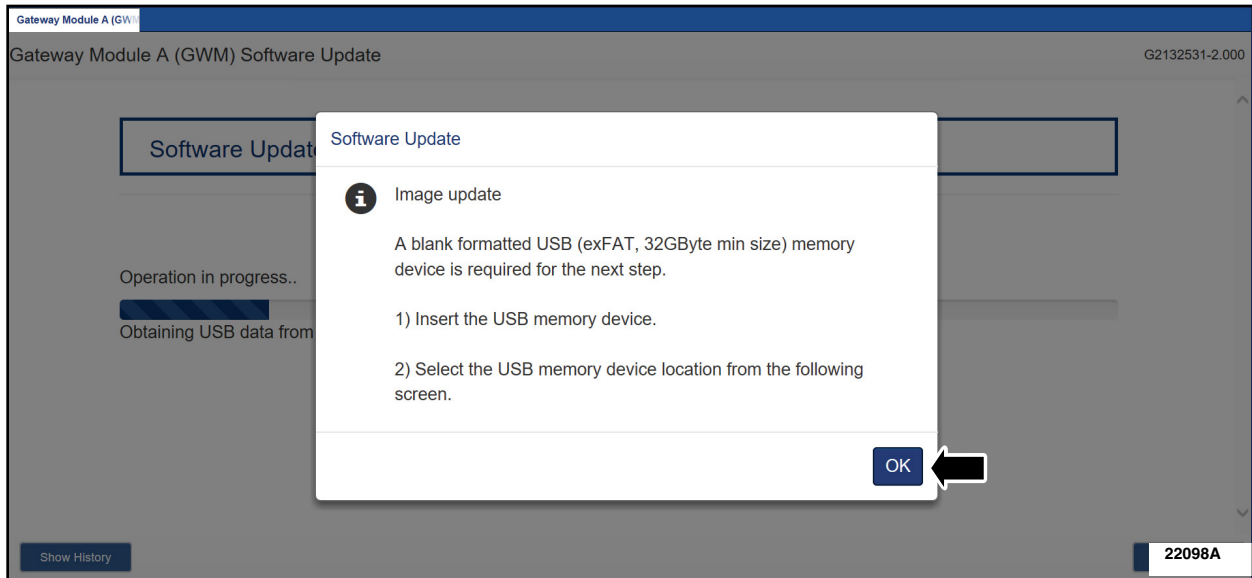

FIGURE 11
13. When prompted, connect the USB flash drive to the diagnostic scan tool and click the OK icon. See Figure 11.